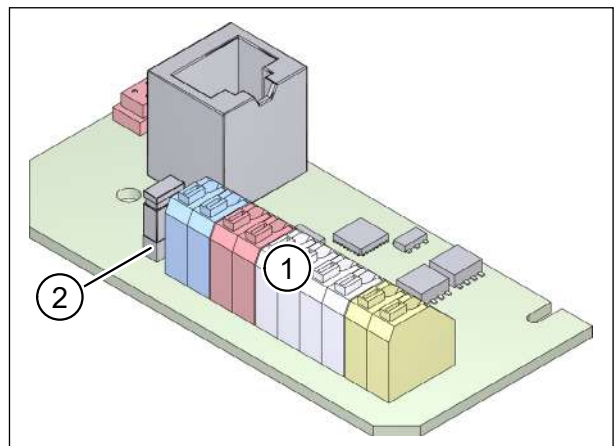

Fig. 21: Modbus board in the ventilation unit
The board has a 10-pole terminal block (item 1 in Fig. 21) for connecting the bus cable and the 3-pole pin header (item 2 in Fig. 21) for attaching the jumper. The jumper acts as a terminating resistor and must be set to suit the wiring topology (serial or star, see section 15.5.1 on page 41).
The bus cable is connected at the connection on the Modbus master and on the 10-pole terminal block (see item 1 in Fig. 21 on page 38) on the board of the first ventilation unit. The bus cable then runs from here from one ventilation unit to the next (see section 15.5 on page 41).